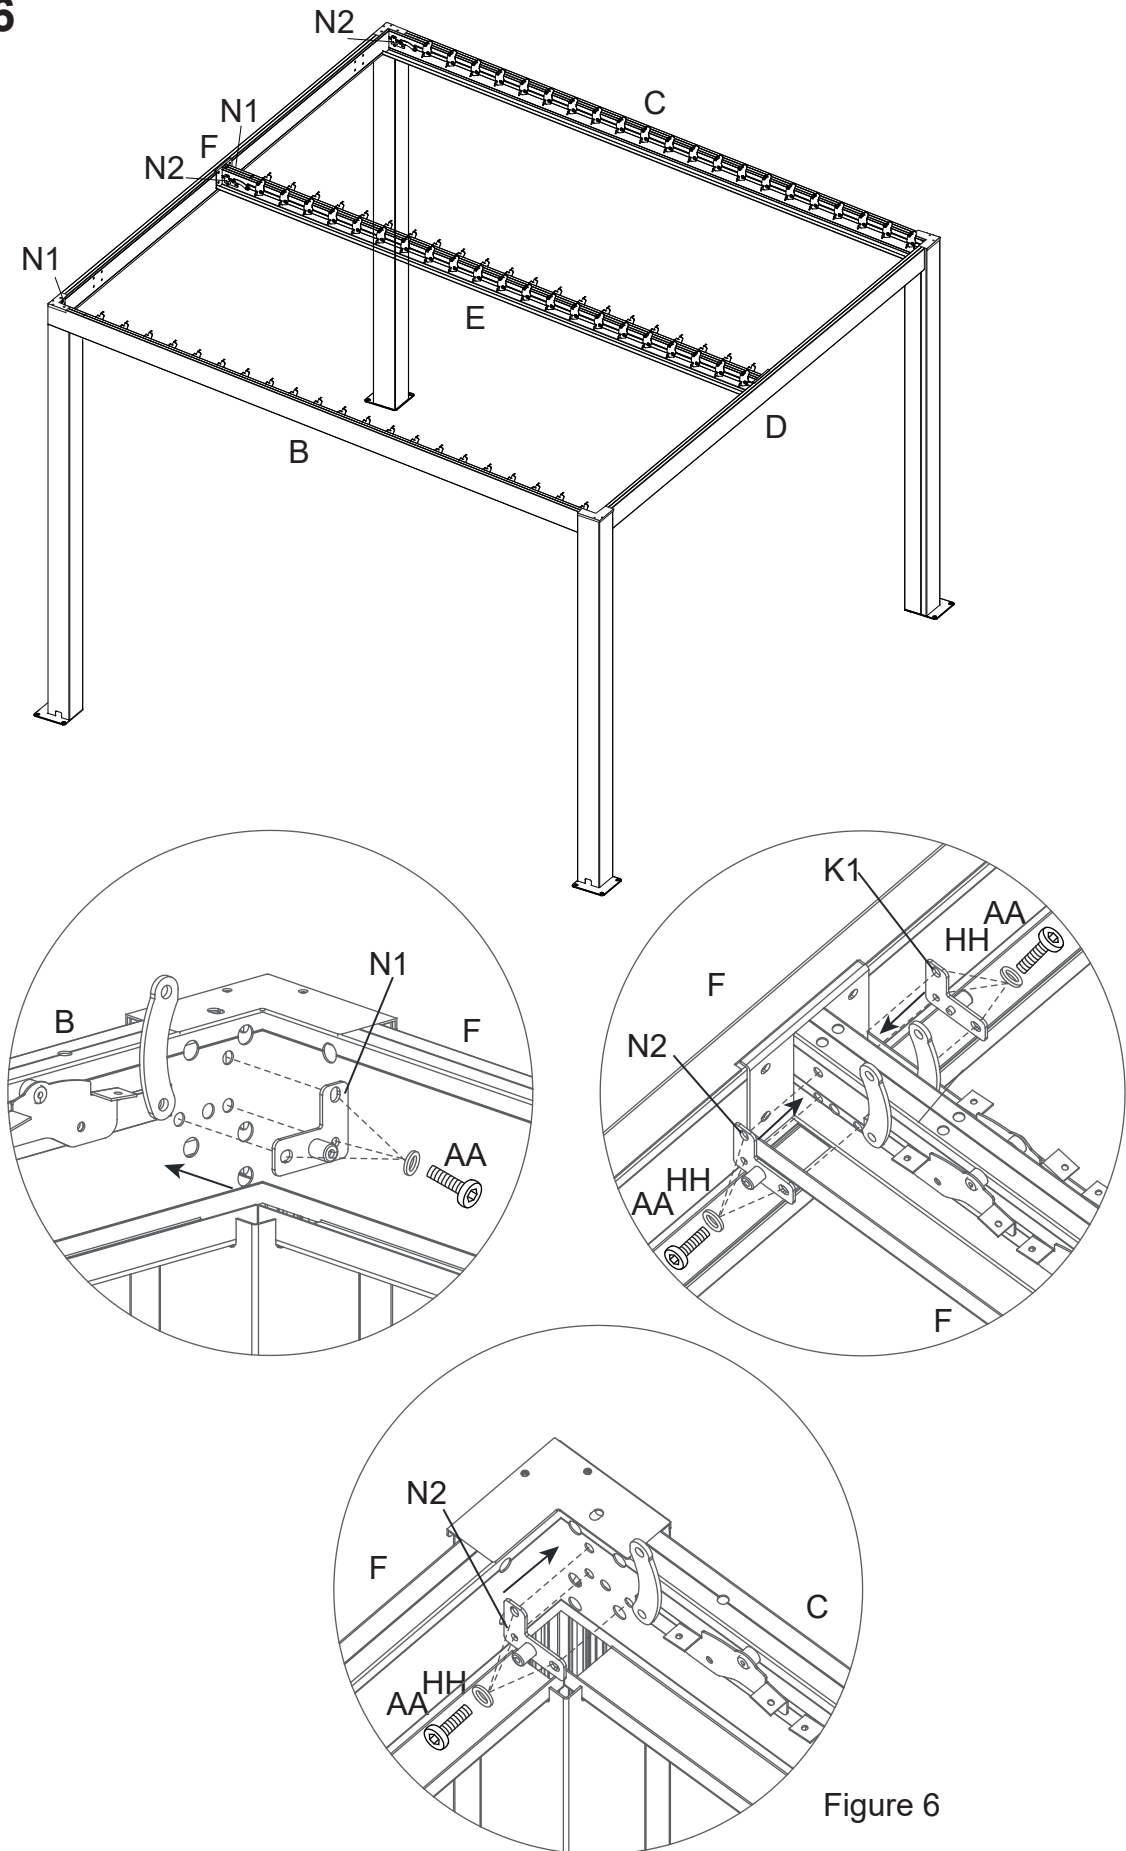

Figure 6
6. Attach the Rocker Connector (N1/N2) to the Lintels (B/C/E) using Bolts (AA) and Washers (HH). See Figure 6.